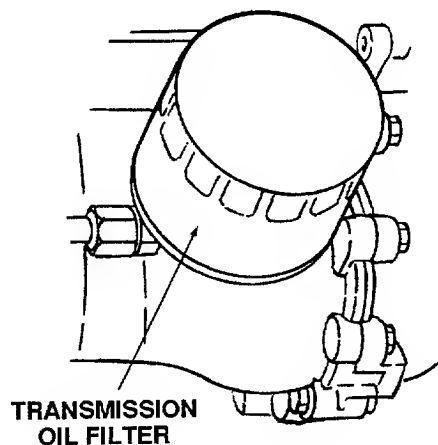

Figure 25
3. Clean around the base of the transmission oil filter and remove the filter by turning it counterclockwise (Refer to Figure 25).